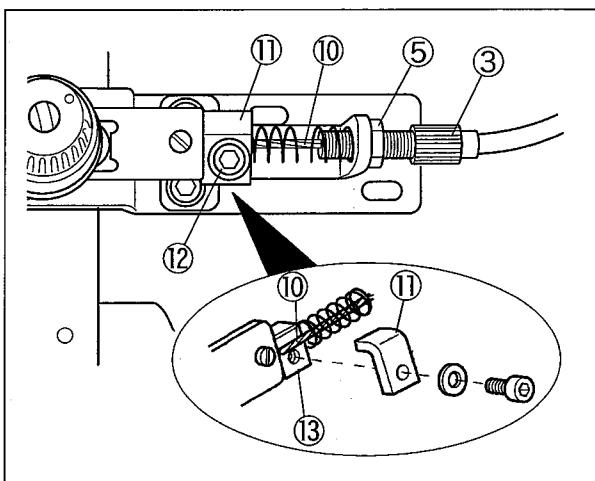

Fig. 2
4. Insert the wire⑩ into the wire guide③ which is on the tension releaser side (in front of the sewing machine). (Fig. 2)